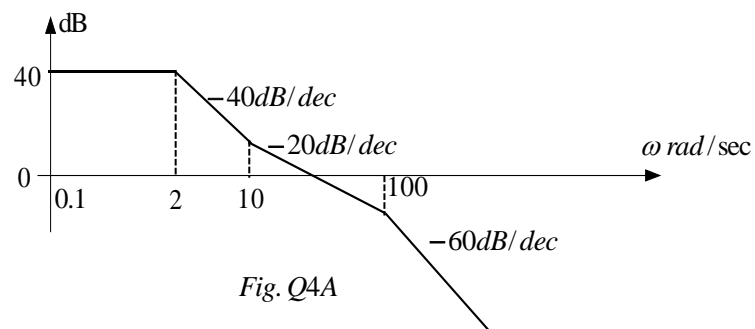

Fig. Q4A
- 3B. The open loop transfer function of a negative feedback system is,  $G(s)H(s) = \frac{k(s+1)}{s^2(s+9)}$ . By step by step procedure draw the root locus plot for  $k > 0$ . Also determine the value of K for a damping ratio of 0.707 due to a pair of complex conjugate poles. (06)
- 4A. The log magnitude plot for an open loop transfer function  $G(s)H(s)$  is shown in Fig. Q4A Determine (i)  $G(s)H(s)$  (ii) Gain at  $\omega = 10$  rad/s and  $\omega = 100$  rad/s (iii) the gain cross over frequency (iv) the phase margin. (05)